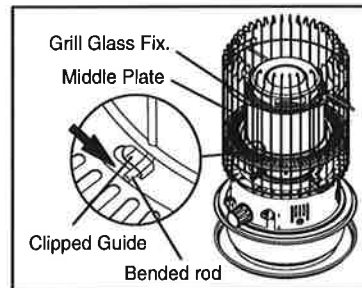

Fig. 4
- FIG 4 related.
plate. (Fig 4)